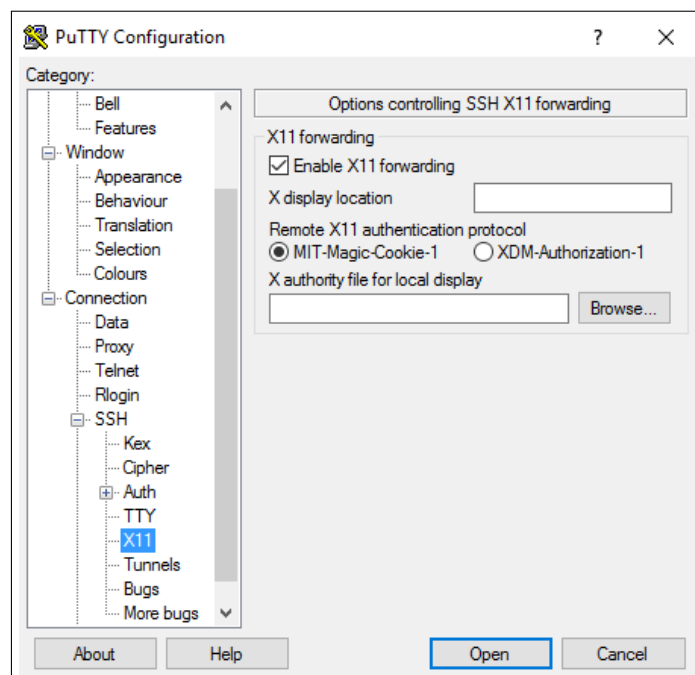

Figure F.1: Enabling X11-forwarding in Putty
- *Windows/Putty*: When setting up the connection, enable X11-forwarding in the Connection|SSH|X11 tab as shown in Figure F.1: